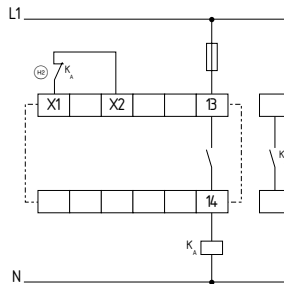

Fig. 16
**Single-channel control (see Fig. 16)**